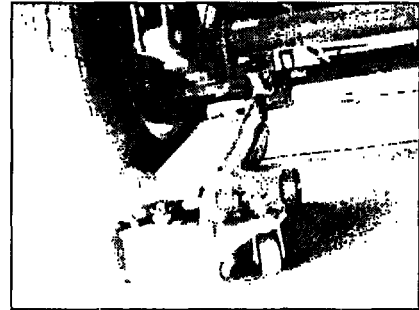

Figure 4
4. Use a floor jack of sufficient capacity to raise one side of the conventional or fifth wheel travel trailer. Locate the floor jack under the spring tie plate below the axle. See Figure 4. Raise the axle just enough to take some of the weight off the wheel.
9. Remove the lug nuts and the two (2) wheels from the raised side of the conventional or fifth wheel travel trailer. Retain wheels and lug nuts for reassembly.